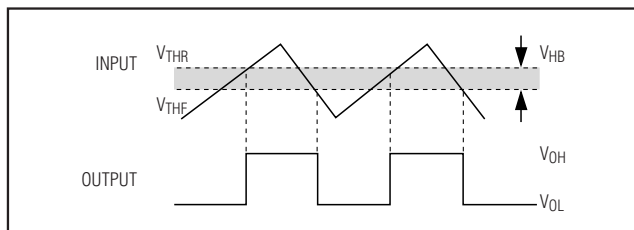
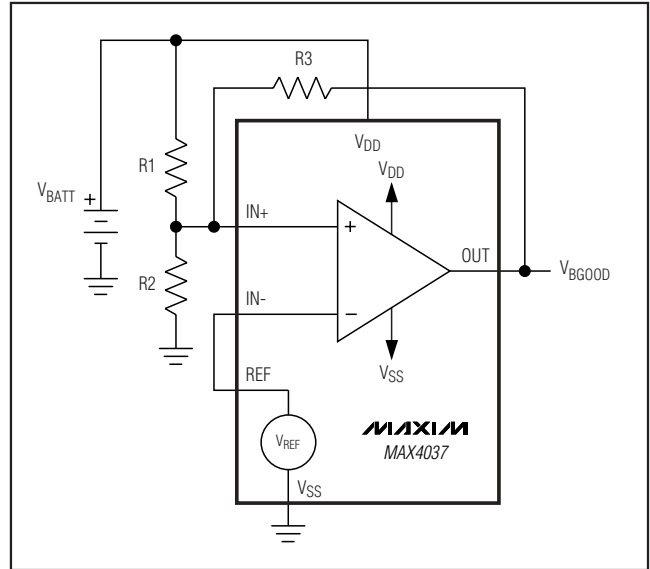

Figure 3. Hysteresis
Figure 4. Battery Monitoring
Although optimized for use as an operational amplifier, the MAX4036-MAX4039 can be used as a rail-to-rail I/O comparator (Figures 3, 4). External hysteresis can be used to minimize the risk of output oscillation. The positive feedback circuit, shown in Figure 4, causes the input threshold to change when the output voltage changes state.
The internal reference and low operating voltage of the MAX4037/MAX4039 make the devices ideal for battery-monitoring applications. Hysteresis can be set using resistors as shown in Figure 4, and the following design procedure:
- 2) Choose the hysteresis voltage ( $V_{HB}$ ), the voltage between the upper and lower thresholds. In this example, choose  $V_{HB} = 50mV$  (see Figure 3).